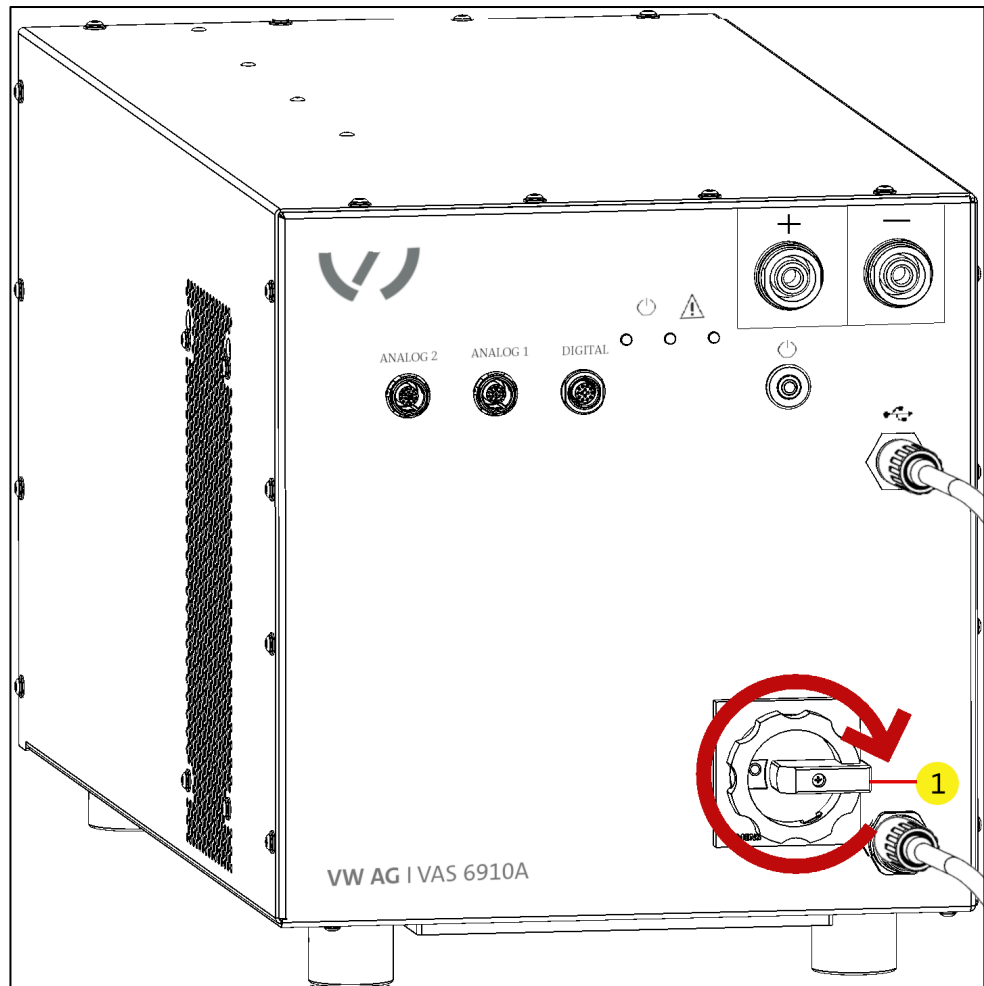

Figure 4: Turn on the power disconnect switch
6. Turn the power disconnect switch (Figure 4/position 1) 90° clockwise to the I ON position.